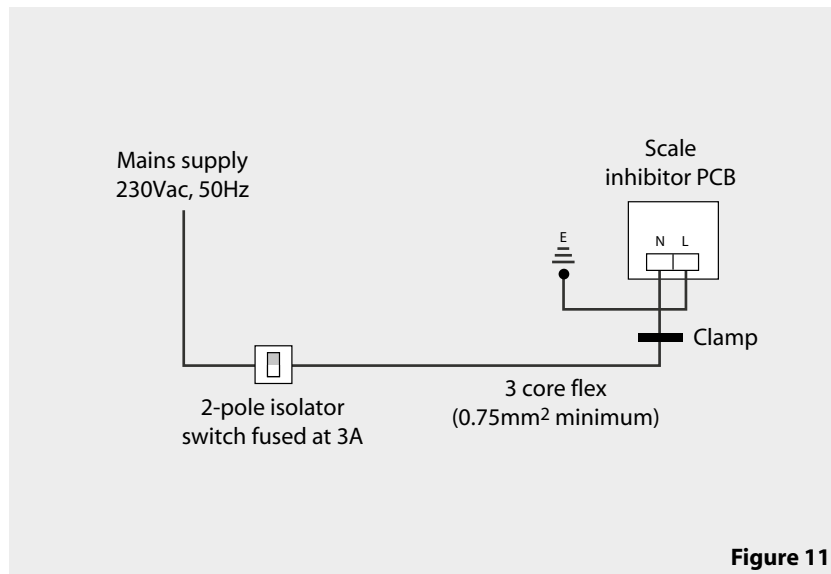

Figure 11
- 5 If an optional scale inhibitor device is fitted then a 3 core flex from the local 2-pole isolator fused at 3A should be used to connect 230Vac 50 hz supply to the controller terminals (see figure 11).